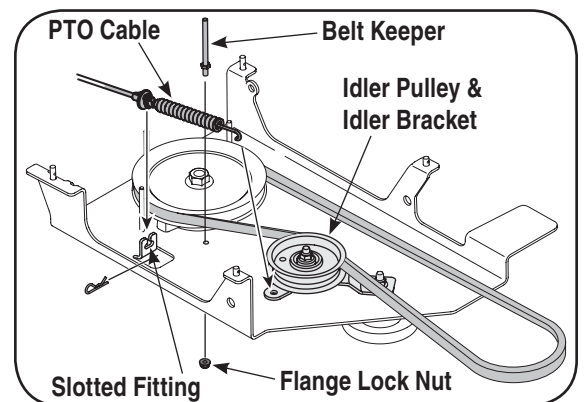

Figure 4-3
1. Install belt keeper pin as seen in Fig. 4-3.
2. Attach the PTO cable to the idler bracket, then fit the cable into the slotted fitting as seen in Fig. 4-3.